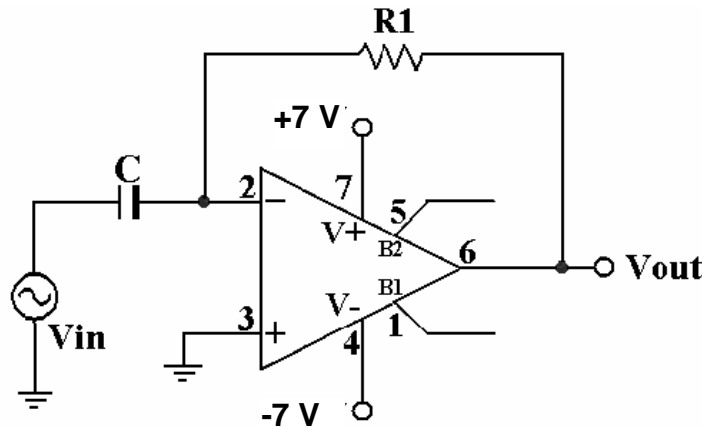

Fig 3. Inverting differentiator circuit
*Differentiator:* As the counterpart of the integrator, the differentiator differentiates the input signal. This configuration is shown in Fig. 3.